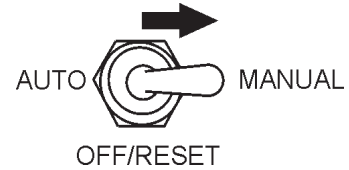

Figure 30. MPEC Control Switch (Manual Position)
- Place the **MPEC Control Switch** in the **MANUAL** position to start the engine (Figure 30).